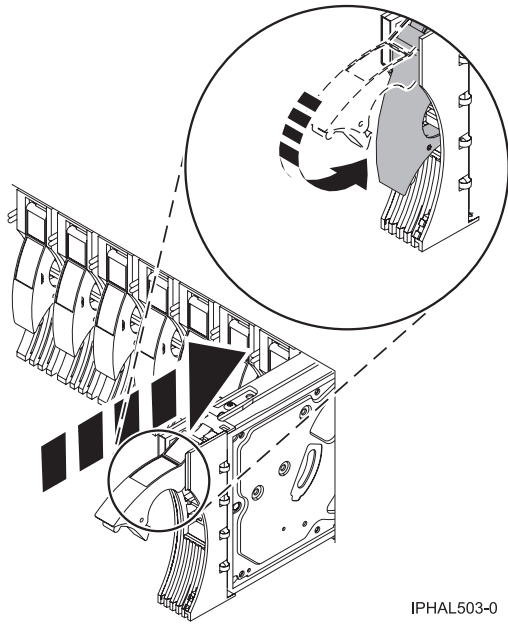

Figure 40. Installing a disk drive in a model
8. Push the disk drive handle in until it locks, as shown in Figure 40 on page 53.